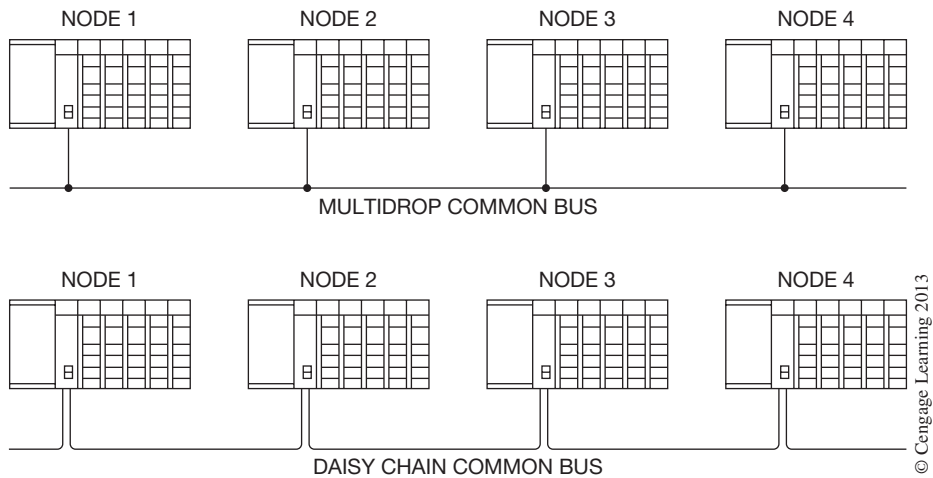

Figure 20-4 Bus Topology
- Bus Topology**—A bus network is a topology in which nodes are connected to a common bus in a daisy chain or multidrop fashion, as shown in Figure 20-4. In the common bus topology, each device is capable of receiving all information packets on the bus, and network communication can occur between any two devices without having to pass the information through a central network controller (as is the case with a star topology). Common bus topologies are well suited to industrial control applications since each device has equal priority and can exchange information at any time. Most industrial I/O networks are of the bus topology. When adding or removing devices from this type of topology very little, if any, reconfiguration is required. The main disadvantage with this topology is that all devices share a common bus and a break in the bus can affect many devices.